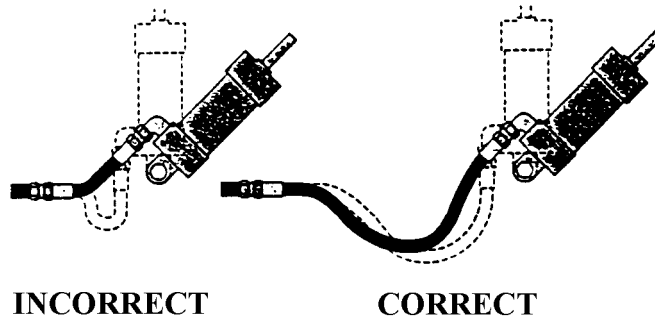

FIGURE 3—MOTION ABSORPTION
5.23 Lengths—Unnecessarily long hose can increase pressure drop and affect system performance. When pressurized, hose that is too short may pull loose from its fittings, or stress the fitting connections, causing premature metallic or seal failures. When establishing hose length, refer to Figures 3, 4, and 5; and use the following practices: